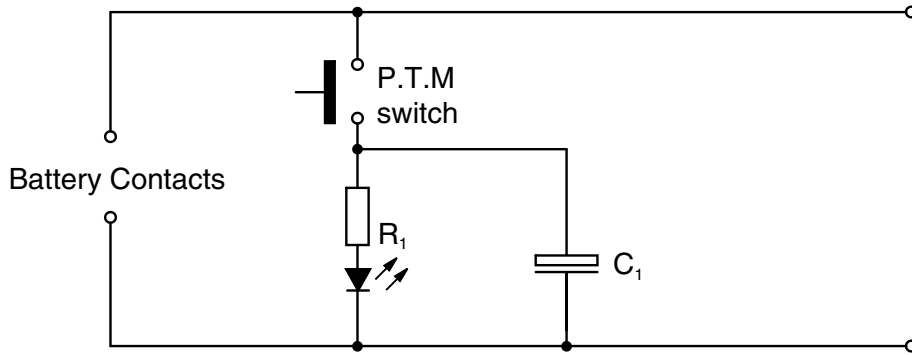

Fig. 11
- (e) An LED is to be used as a battery test indicator for the trailer lighting system. A circuit diagram is shown in Fig. 11.
- (i) State the type of switch shown in the circuit diagram in Fig. 11.
- (ii) State the purpose of R_1 in the circuit diagram in Fig. 11.
- (iii) Explain the purpose of the capacitor C_1 in the circuit diagram shown in Fig. 11.